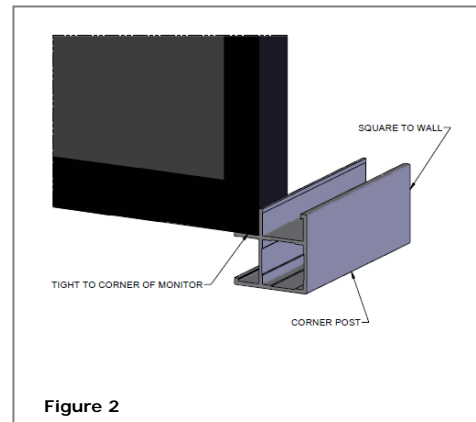

Figure 2
1. Position a corner post so that it is square against the wall and tight to a corner of the monitor. **See Figure 2.**